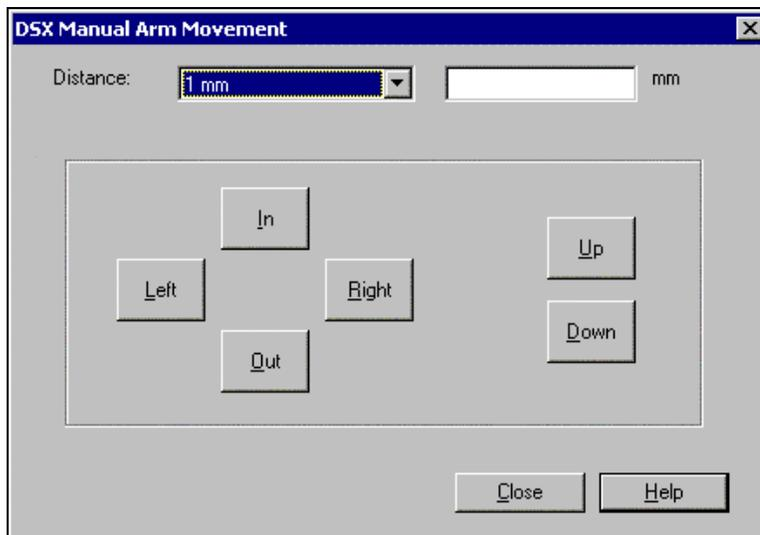

Figure 5-2 DSX Manual Arm Movement Dialog Box
- In some instances, a dialog box will be presented for additional information. As an example, if Arm is selected in the left column and Move Arm is selected in the right column (see the section entitled, Arm on page 5-9); the Manual Arm Movement dialog box is presented. This dialog box is used to indicate the direction of movement and the distance that the arm is to be moved (Figure 5-2).